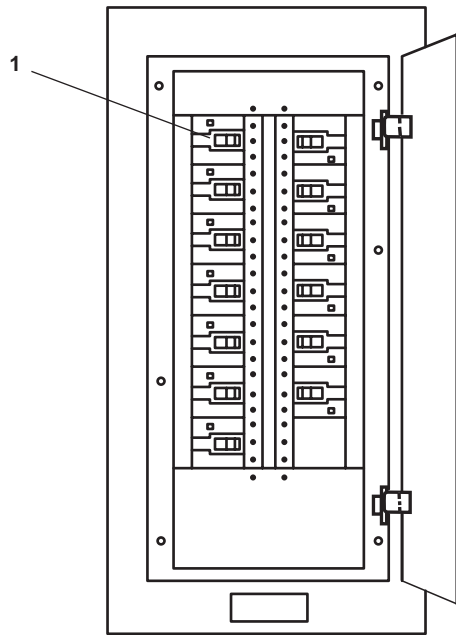

Figure 4. 440V Power Panel No. 1
- b. In the engine room on the aft bulkhead of the EOS, at 440V power panel No. 1, set the LUBE OIL TRANSFER PUMP circuit breaker (figure 4 item 1) to ON.
5. Secure the electrical system at 440V power panel No. 1, by setting the LUBE OIL TRANSFER PUMP circuit breaker (figure 4, item 1) to OFF.